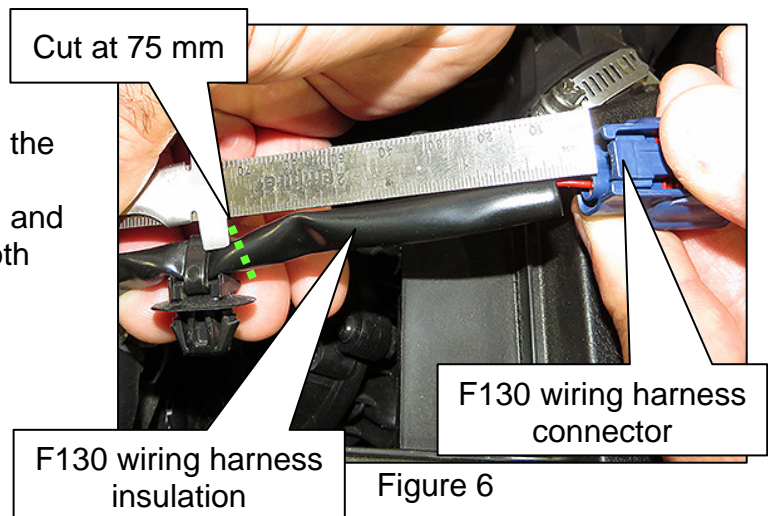

Figure 6
3. Measure 75 mm of harness from the end of the F130 wiring harness connector, as shown in Figure 6, and cut through the insulation and both wires.